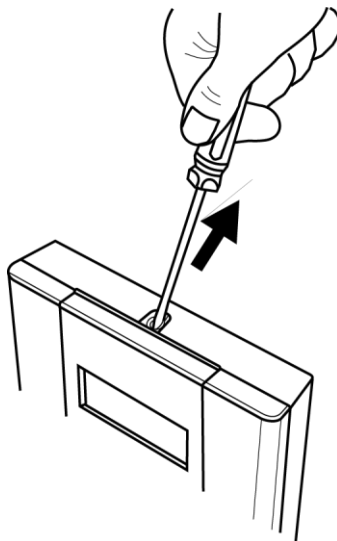

Figure 8. i-on Compact: Opening the lid
2. Insert a small screwdriver into the screw recess and use it to lever open the lid, as shown in Figure 8 (the lid is hinged at the bottom).